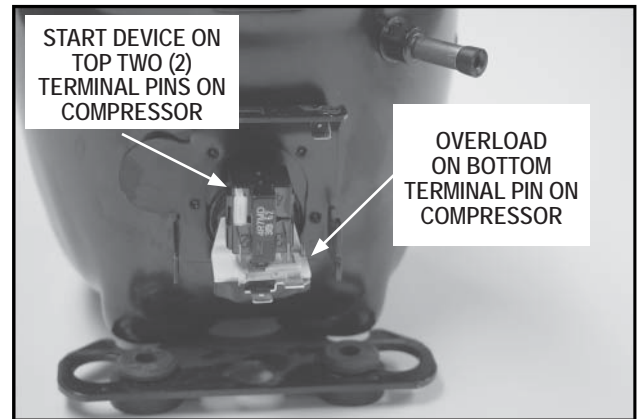

Figure 3
6. Install new overload on bottom compressor pin (See Figure 3).
7. Install start device on top two (2) compressor terminal pins. Make sure the start device and overload are securely mounted on the compressor terminal pins (See Figure 3).